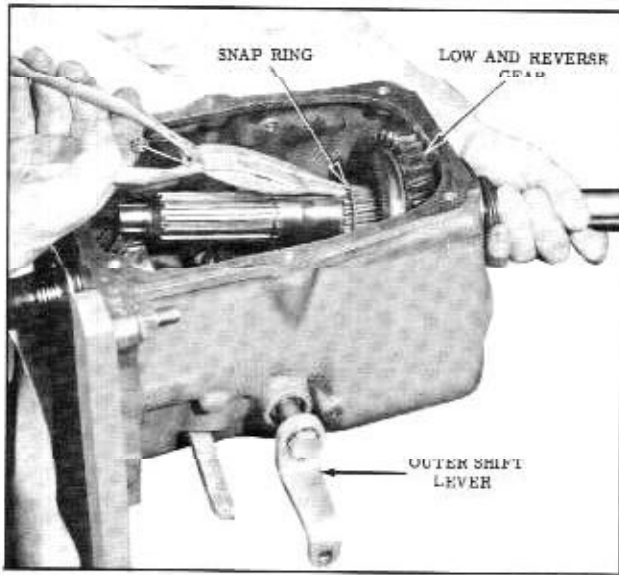

Fig. 11-12 Low and Reverse Gear Snap Ring
10. Remove the low and reverse gear retaining ring and slide the gear off the main shaft. (Fig. 11-12)
12. Loosen the outer shift lever bolt. Position the lever so that the inner shift levers are vertical and remove the outer shift lever. (Fig. 11-12)